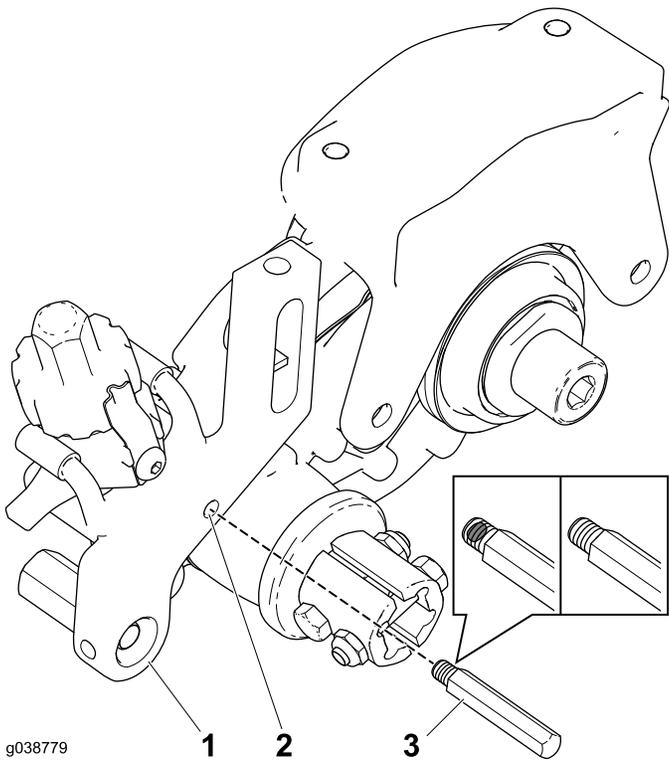

Figure 17
2. Secure the groomer pin to the height-of-cut arm (Figure 17).